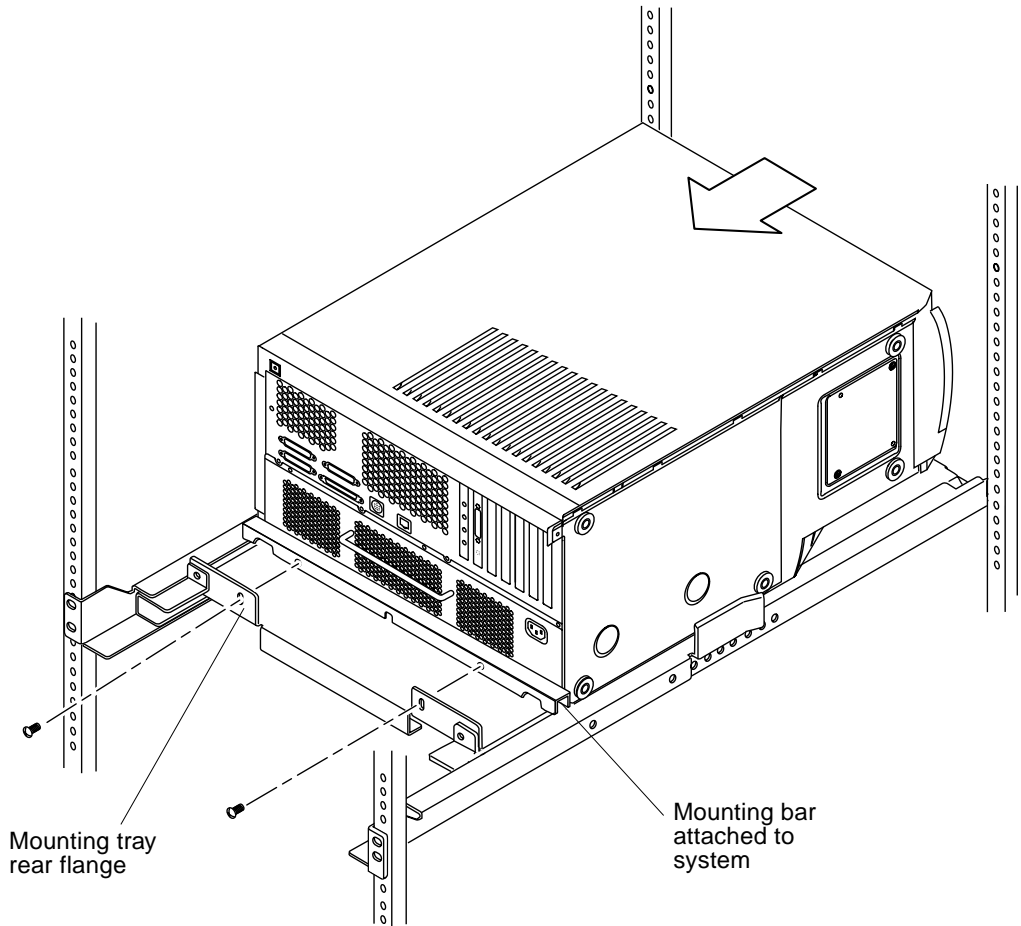

FIGURE 11 Fastening the System to the Mounting Tray
4. Using two of the provided screws, fasten the rear of the mounting tray to the mounting bar (FIGURE 11).